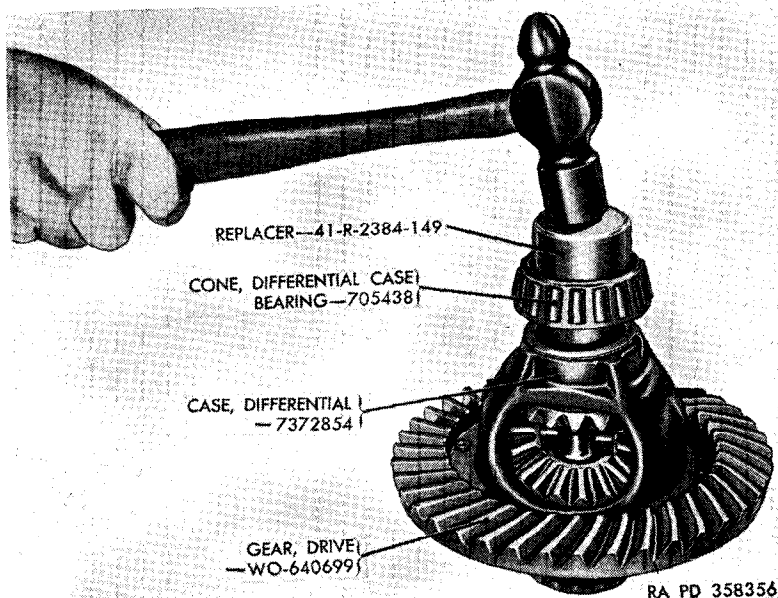

Figure 80. Installing differential case bearing cones.
d. Adjust Differential Case Bearing Cones (fig. 65). The adjustment of the differential case bearing cones (D and P) is maintained by the use of case bearing shims (E, F, M, and N) placed between the differential case and differential case bearing cones with an 0.008-inch pinch fit when assembled in gear carrier housing. Install the differential case bearing cones without shims, using replacer 41-R-2384-149, (fig. 80). Place the differential case in the gear carrier differential case housing with differential case bearing cups (C and Q) and force to one side. Check the clearance between the differential case bearing cup and the differential case with a feeler gage (fig. 81). After the clearance has been determined, add 0.008 inch, which will give the proper thickness of case bearing shims required. Remove the differential case bearing cones and install equal thickness of case bearing shims (E, F, M, and N) on each side; install the differential case bearing cones.